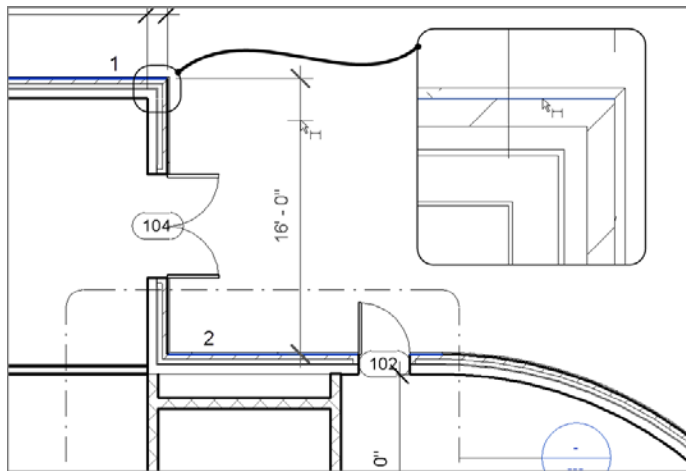

FIGURE 5.6: Placing the dimension by picking two objects
1. Zoom in on the northeast portion of the east wing, as shown in Figure 5.6.
- a. Pick the north wall marked 1 in Figure 5.6.
- b. Pick the horizontal wall that ties into the radial wall, marked 2 in Figure 5.6.
- c. Place the dimension about 8' (2400mm) to the right of the vertical wall, as shown in Figure 5.6.